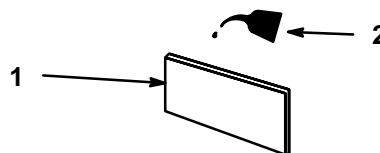

Figure 30
- C. Soak element in new engine oil. (Fig. 30). Squeeze the element to remove excess oil.